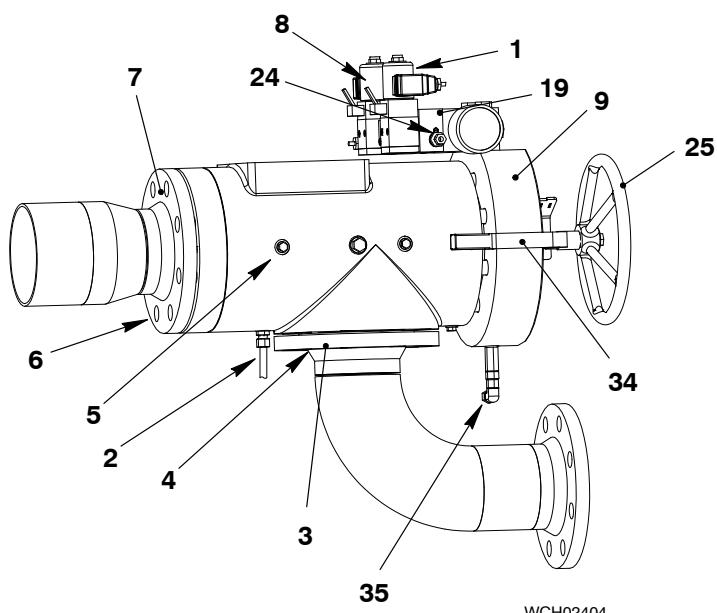

Fig. 5
- 22) Put the assembled shut-off valve in position as shown in Fig. 5.
- 23) Attach the flange (7) to the valve guide (16) with the eight screws (6).
- 24) Torque the eight screws (6) to the value given in 0352-2, paragraph 1.
- 25) Attach the flange (3) to the shut-off valve with the eight screws (4).
- 26) Torque the eight screws (6) to the value given in 0352-2, paragraph 1.
- 27) Connect the check-pipe (35) to the pipe connection on the cover (9).
- 28) Connect the pipe (2) to the valve body.
- 29) Connect the control air pipe to the pipe connection (24).
- 7) Use the handwheel (25, Fig. 5) to move the shut-off valve to the position AUTOMAT. Make sure that the lever (34) engages with the groove in the spindle.
- 8) Make sure that no air flows from the bore of the screw plug (5). When no air flows, the automatic function of the shut-off valves operates correctly.